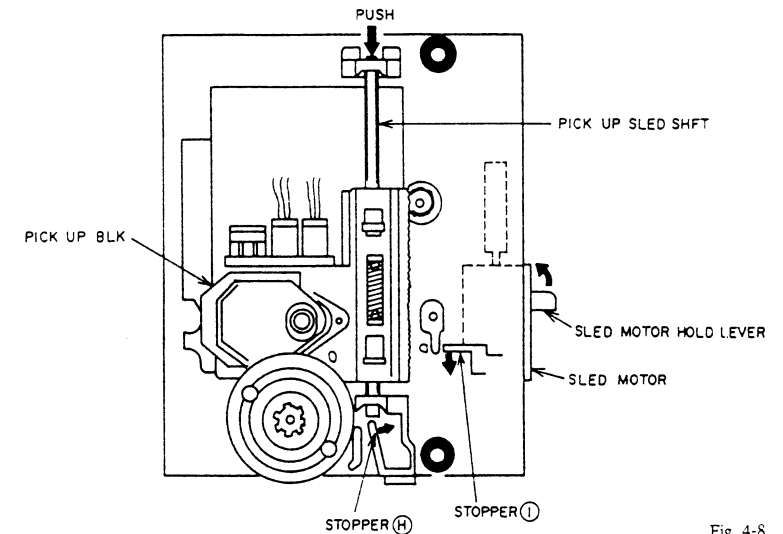

Fig. 4-8
- 1) Push PICK UP SLED SHAFT while releasing the STOPPER ㉟ as shown Fig.4-8 and pull out the PICK UP SLED SHAFT, then remove PICK UP BLK.